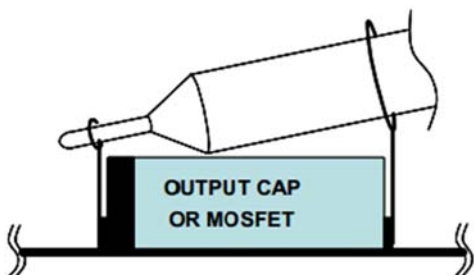

FIGURE 3. OSCILLOSCOPE PROBE SETUP
- 4. Use oscilloscope to observe output ripple voltage and phase node ringing. For accurate measurement, refer to Figure 3 for proper setup.